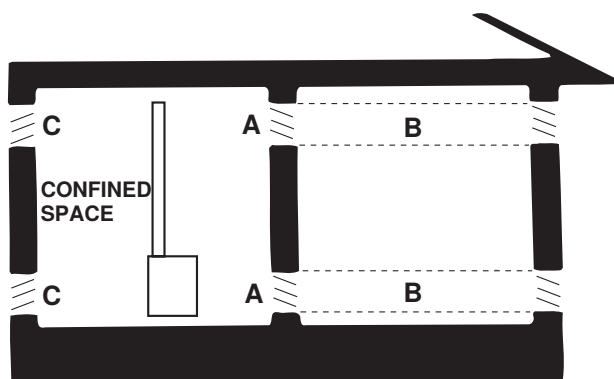

Figure 6. Confined Space Combustion Air Openings (Refer to Table 6)
- Provide openings (depending on the combustion air source) near the floor and ceiling for ventilation and air for combustion, as shown in Figure 6 and as listed in Table 6.
*See Figure 6.